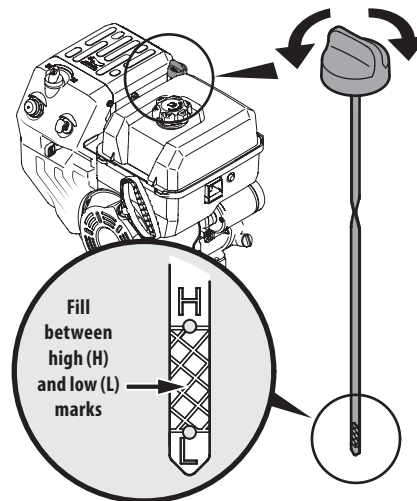

Figure 3-2
- Keep oil level between "H" and "L" marks on dipstick. See "Figure 3-2".
3. Remove the oil filler cap/dipstick. If the level is low, slowly add oil until oil level registers between high (H) and low (L), "Figure 3-2".
4. Loosen and remove the oil fill cap dipstick from the oil filler tube. Note the oil level, if oil reading on the dipstick is below the "L" mark, slowly add oil to reach the "H" level. See "Figure 3-2".